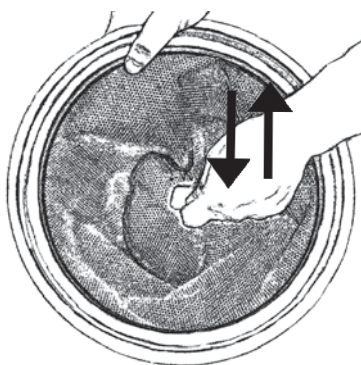

Fig. 21
2. Do not remove the filter from the container. Instead, give the filter a light shaking inside the container to loosen dust from the filter allowing it to fall into the container. This is done by grasping the strap on the filter and quickly move the filter up and down as shown in Fig. 21.